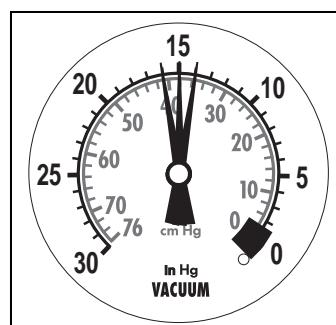

Figure 8
3. Ignition system problems or burned, leaky and sticking valves (Figure 8)